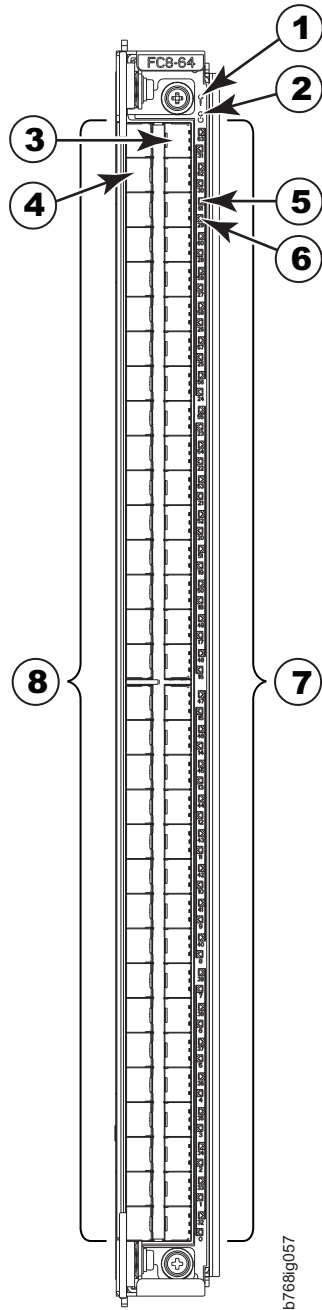

Figure 53. FC8-64 port blade
- Figure 53 on page 151 shows an FC8-64 port blade